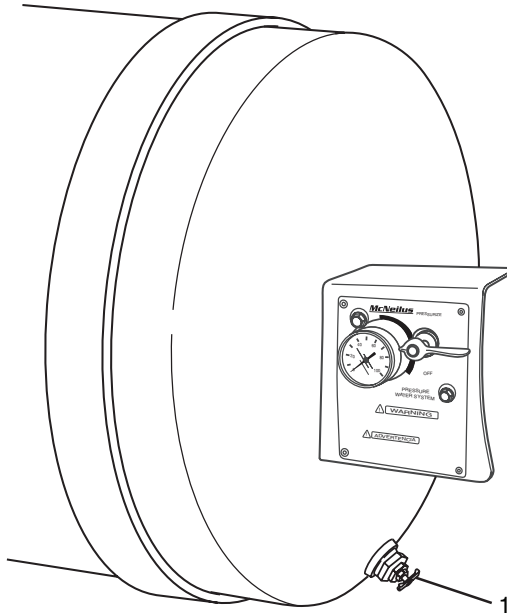

Figure 40
2. Open the tank drain valve (Figure 40, Item 1) and allow the water to drain. When water is drained, close the drain valve.